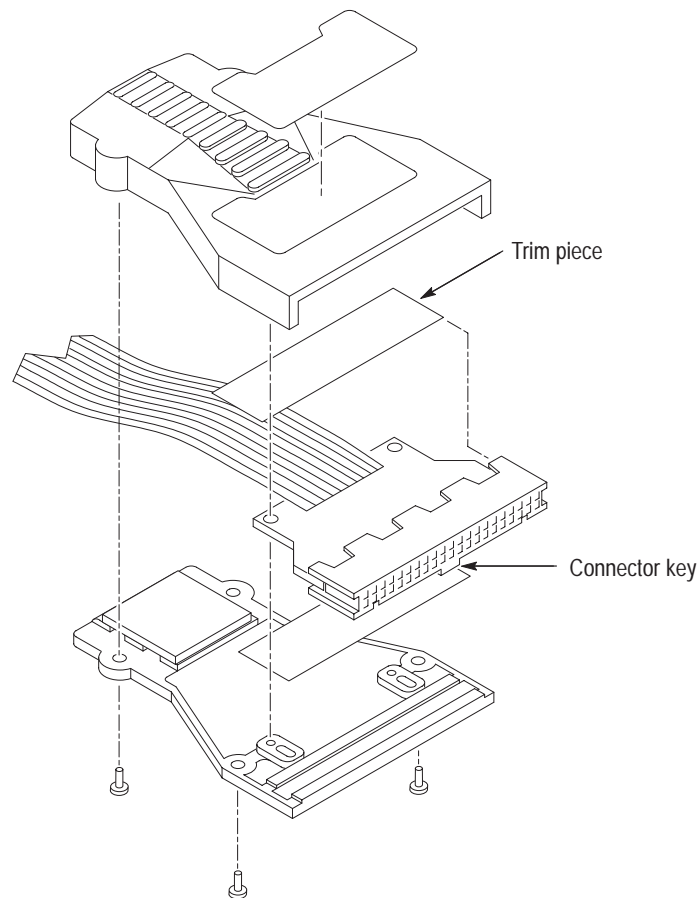

Figure 24: Reassembling the module end
2. On the module end, position the trim pieces in the connector housing as shown in Figure 24.
4. Attach the case halves and reconnect the screws as shown in Figure 24.